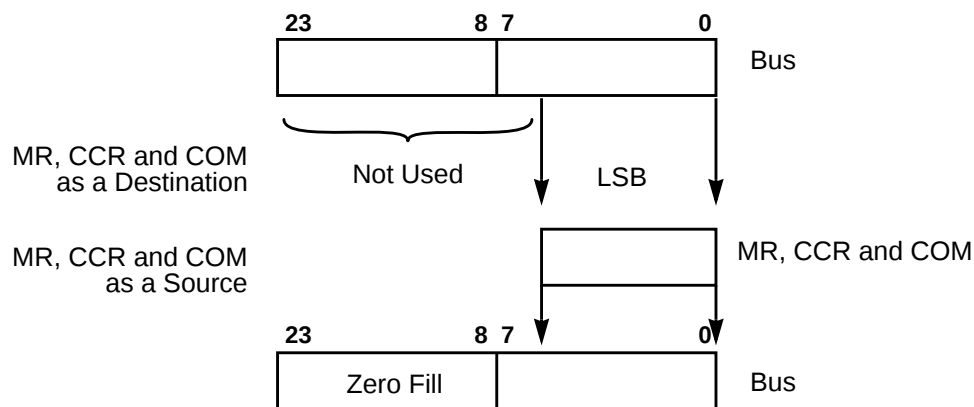

Figure 12-5. Reading and Writing Control Registers
The two accumulator extension registers are 8 bits wide. When an accumulator extension register is a source operand, it occupies the low-order portion (bits 0–7) of the word; the high-order portion (bits 8–23) is sign-extended (see **Figure 12-5**). As a destination operand, this register receives the low-order portion of the word, and the high-order portion is not used. Accumulator operands occupy an entire group of three registers (e.g., A2:A1:A0 or B2:B1:B0). The LSB is the right-most bit (bit 0 in 24-bit mode and bit 8 for 16-bit mode), and the MSB is the leftmost bit (bit 55).
Within the 24-bit SR, the user condition code register (CCR) occupies the low-order 8 bits, the system Mode Register (MR) occupies the middle-order 8 bits, and the Extended Mode Register (EMR) occupies the high-order 8 bits. The SR can be accessed as a word operand. The MR and CCR can be accessed individually as word operands (see **Figure 12-5**). The Loop Counter (LC), Loop Last Address (LA), stack Size (SZ), System Stack High (SSH), and System Stack Low (SSL) registers are 24 bits wide and are accessed as word operands. The system Stack Pointer (SP) is a 24-bit register that is accessed as a word operand. The PC, a special 24-bit-wide Program Counter register, is generally referenced implicitly as a word operand, but it can also be referenced explicitly (by all PC-relative operation codes) as a word operand.(see **Figure 12-5**).